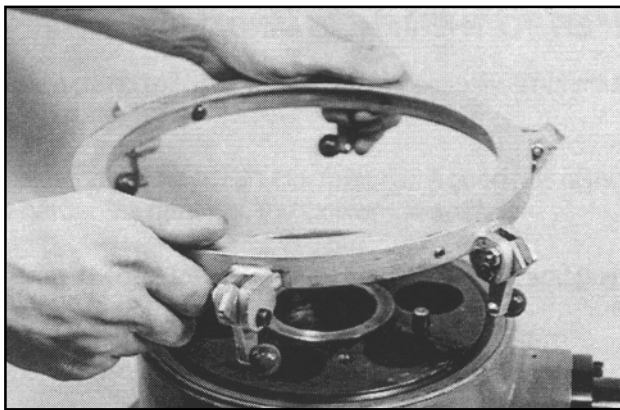

Fig. 2
(Fig. 2)
2. Remove the rotating tool holder plate, (part # 66-005-00) from the machine body by lifting it from the two dowel pins pressed into the rotating head. (Fig. 2)
3. Install the trip collar assembly onto the machine housing by tightening the six locking socket set screws located on the out diameter of the collar assembly (Fig. 2).